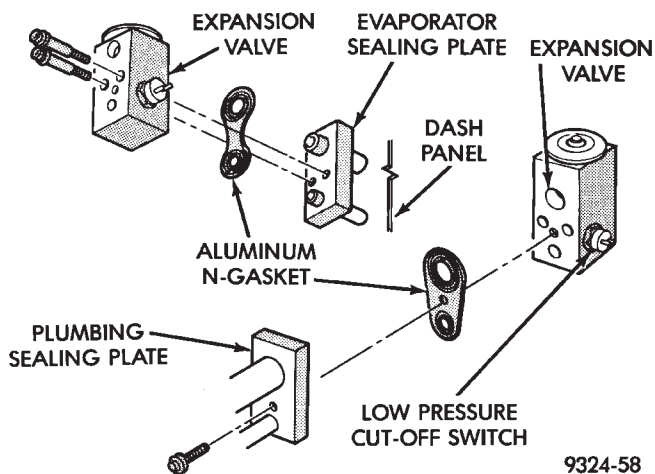

Fig. 3 Expansion Valve
- (1) Remove the boot-type wire connector from the pressure cut-off switch.
- (2) Remove the 3 pin connector from the ECCS.
- (3) Remove the attaching bolt in center of refrigerant line-plumbing sealing plate (Fig. 3).